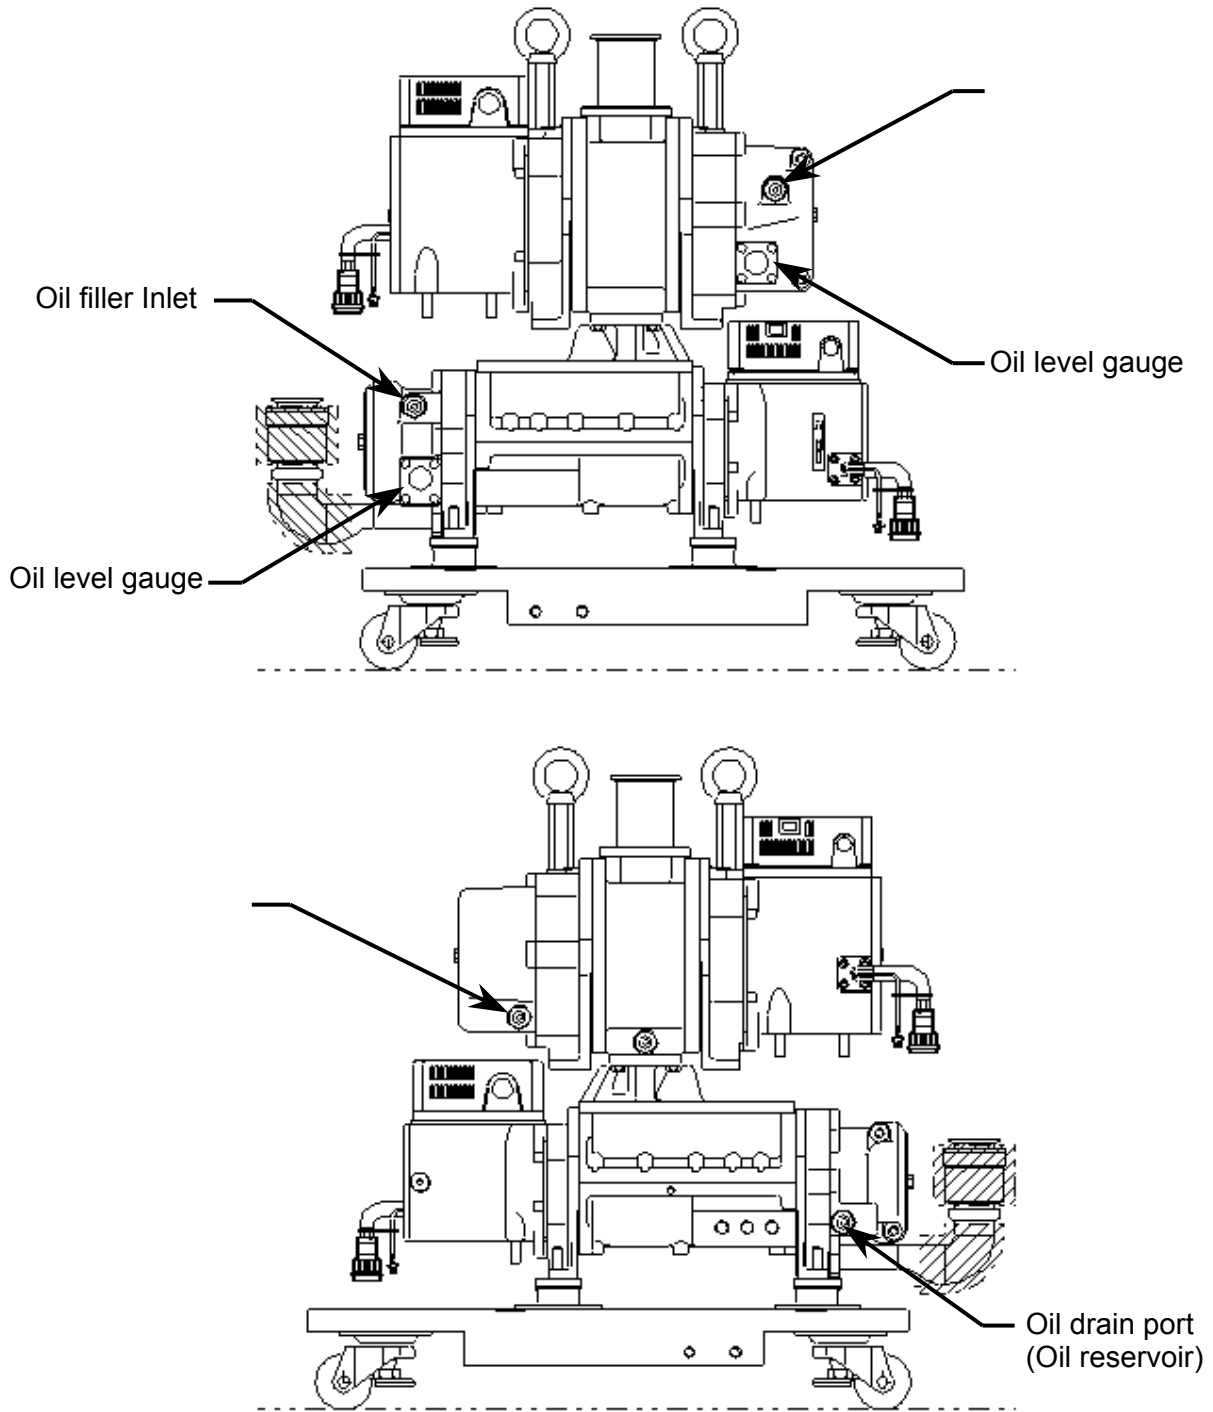

Fig. 8.2 Oil filler inlet, oil level gauge, and oil drain port positions
- (2) After you have waited until the internal pump pressure returns to atmospheric (normal) pressure, remove the plug from the oil-filler inlet. (See Fig. 8.2.)
- (3) Check the level through the window of the gauge. Then, add the oil so that the level is between the upper and lower limit lines (see Fig. 8.2, 8.3 and 8.4).
- (4) After you have checked that there are no depositions and fragments adhering to the O ring attached to the plug, close the oil-filler inlet.
- (5) Please check the air leak after supplying lubricating oil.